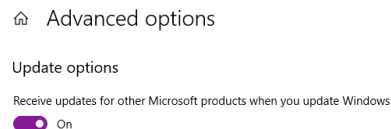

FIGURE 97: RECEIVE UPDATES (KUCERA, 2020)
12.2.3. Click the back arrow to go back to Updates & Security, then click Advanced Options. Turn on “Receive updates for other Microsoft products when you update Windows” so that your whole system stays updated (See Fig. 97).